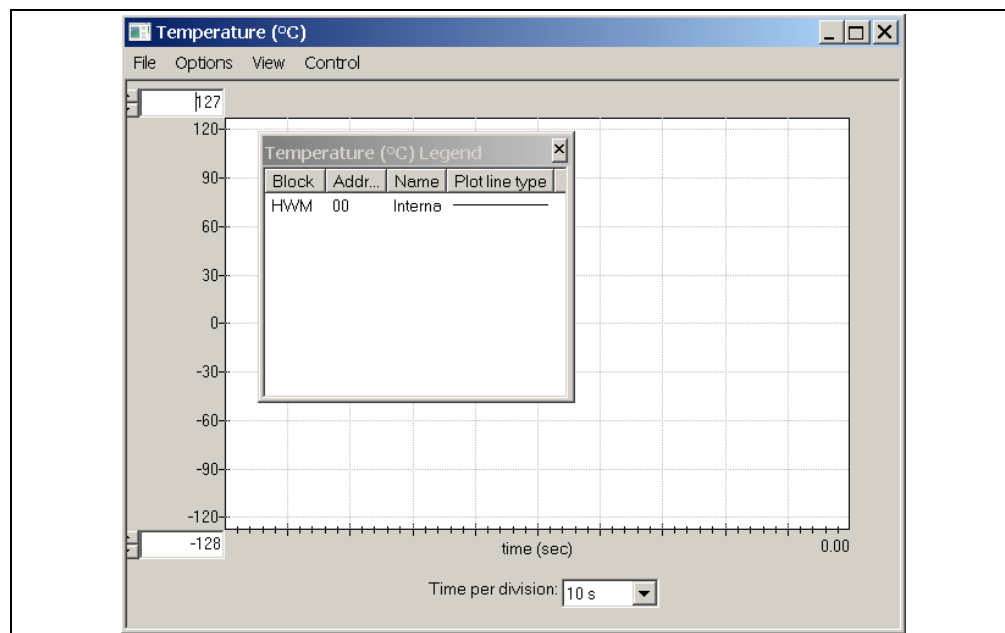

FIGURE 4-3: Register Plot Window.
2. Once the desired register is added to be plotted, a graphic plot window will appear with a legend on top, as shown in Figure 4-3. The two windows can be rearranged independently.